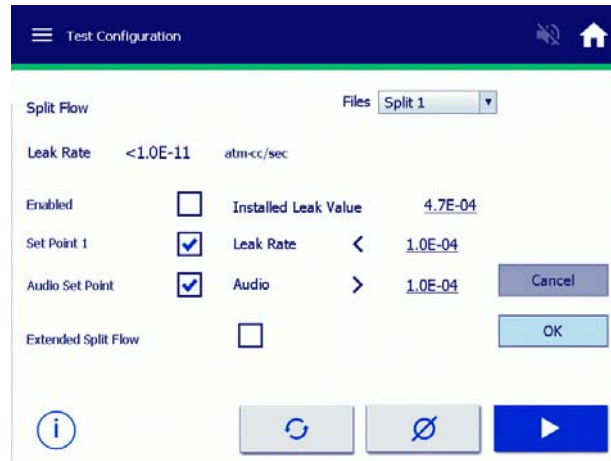

Figure 5-13 Split Flow Setup
5. Select **Test Configurations > Applications Setup** and Figure 5-13 appears.
6. Select **Split Flow** and press **Setup** and Figure 5-13 appears.